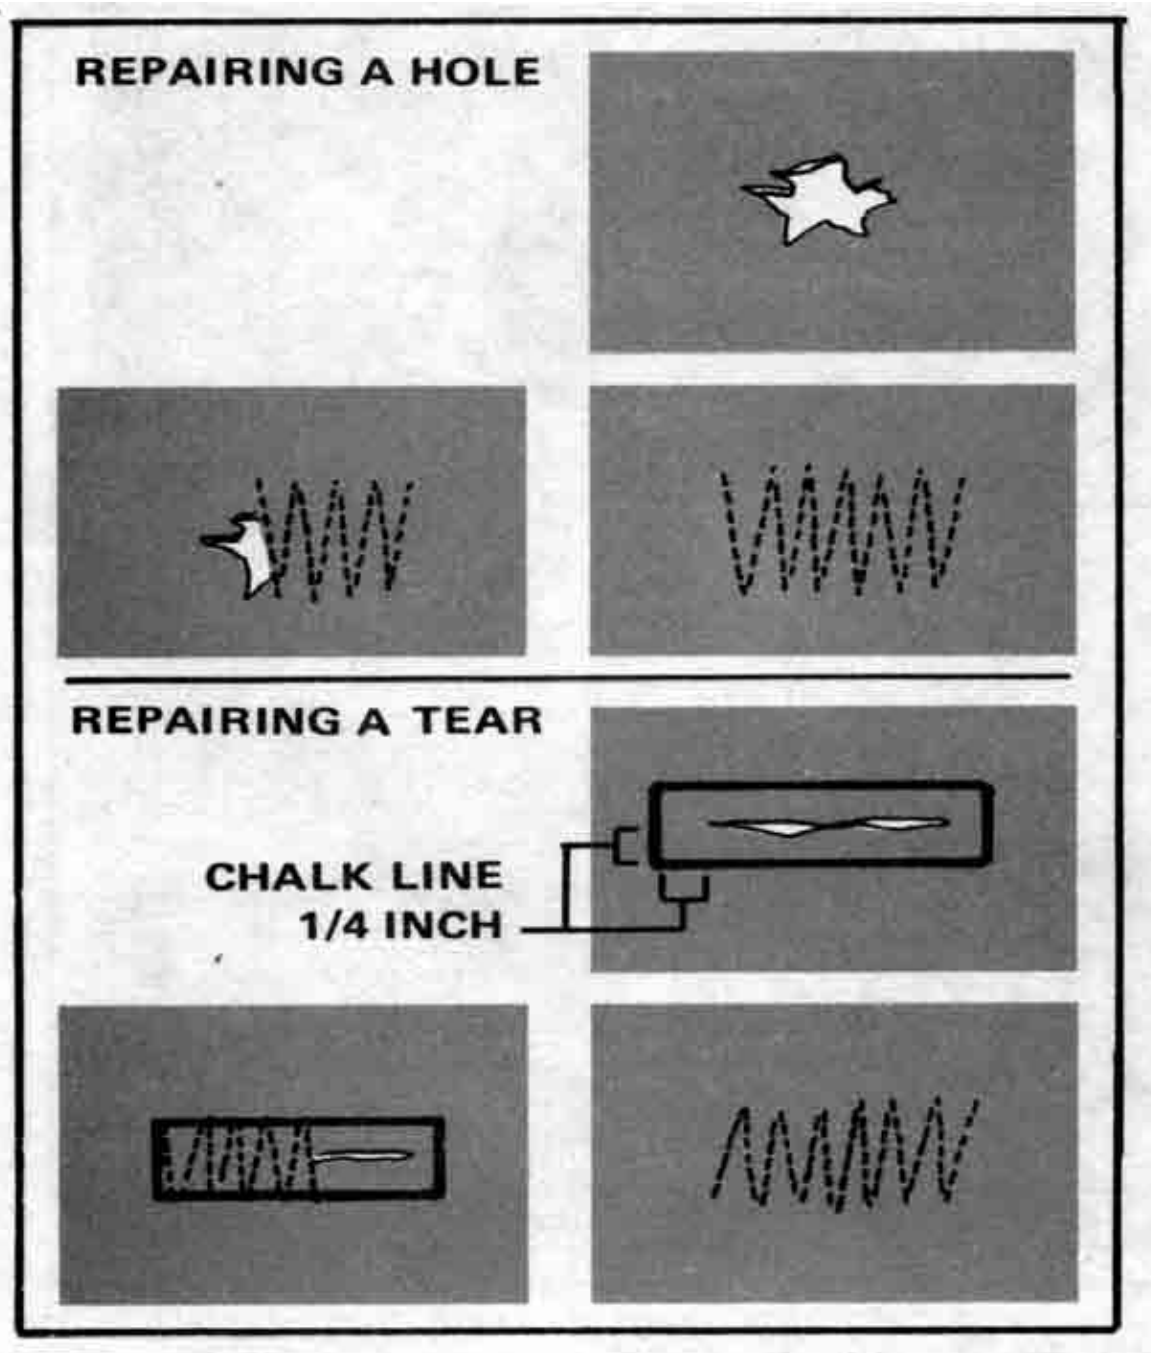

Figure 4-3. Zigzag darn
c. Zigzag Darn. The zigzag darn (Figure 4-3) is used to repair holes that are less than 1/2 inch across. It is also used to repair slits and straight tears where no fabric is missing. To make a zigzag darn-
(1) Turn the cloth faceup. To fix a hole, first flatten out the edges around the hole. To fix a tear, first draw a rectangular box around the tear 1/4 inch away from the tear on all sides with tailor's clay chalk.
(2) Start and end the stitching in the undamaged area around the hole or on either end of the tear.
(3) Stitch back and forth across the damaged area in a zigzag fashion, covering the hole or filling in the rectangle. Stitch the rows as close together as possible without overlapping them. Do not stitch outside the lines of the rectangle.